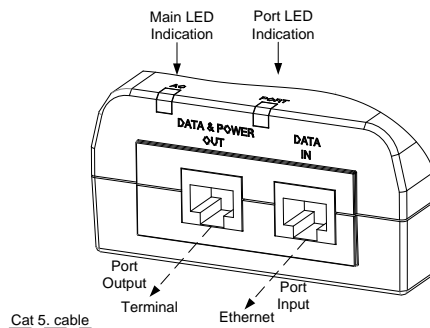

Figure 3: PoE Midspan Ports
- Connect the "DATA IN" jack (input) to the remote Ethernet network switch's Patch panel and the "DATA & POWER" jack (output) to the terminal (See Figure 3).